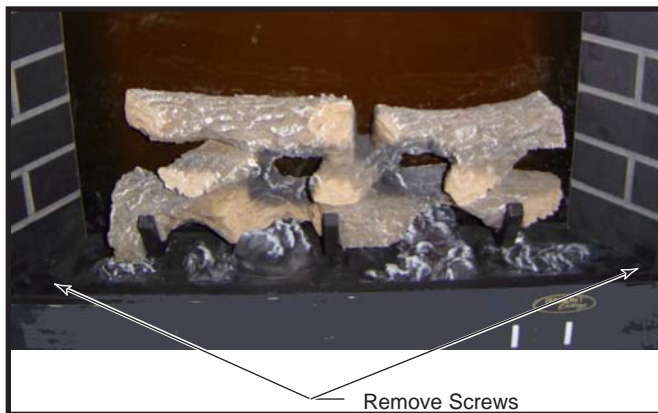

Fig. 5 Remove screws that hold refractory bracket with
4. Locate two (2) screws that hold the refractory (brick patterned) bracket together with the ember bed. (Fig. 5) (Not applicable to HEF22)
5. Remove those two (2) screws using an appropriate screwdriver. One screw is located on either side of the unit.